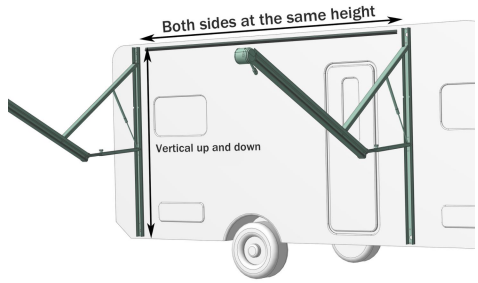

Figure D7
3.3 Use Screw C to secure the air pressure folding arms at both ends. Attention: The folding arm should be vertical up and down, and the left and right arms are at the same horizontal height (Figure D7).